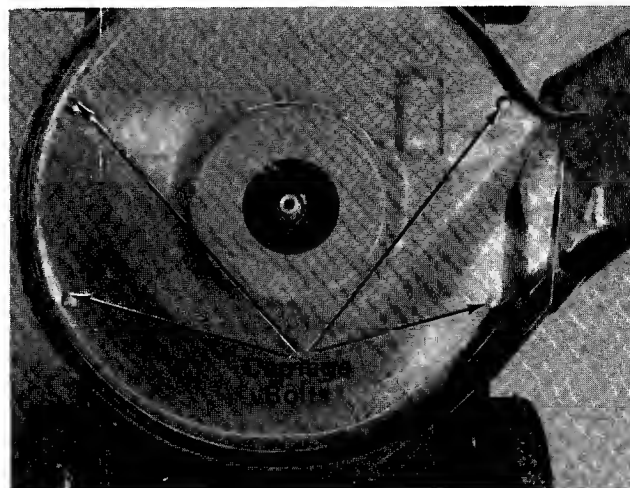

FIGURE 24.
4. Remove the four carriage bolts holding the lower deck to the frame. See figure 24.